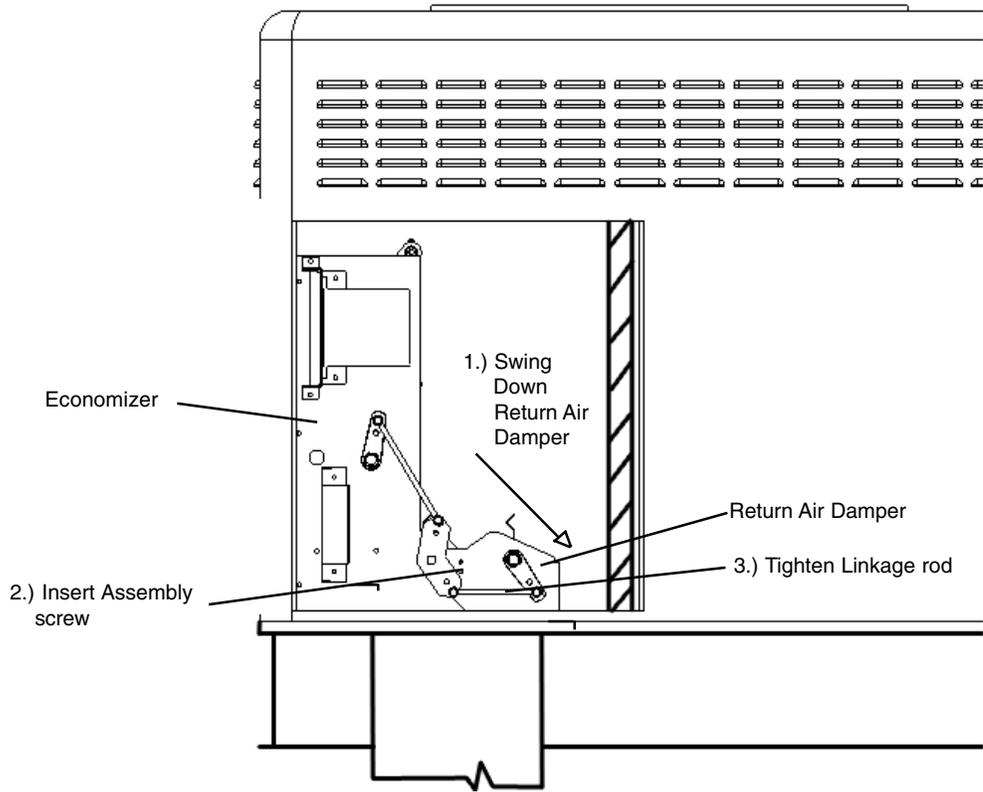

Figure 5. Swing Down and Set Economizer Return Air Damper
2. Swing the return air damper section down so that it rests on the bottom of the unit. The economizer will sit completely over the return air opening in the bottom of the unit. See Figures 5 on page 4. Screw the economizer assembly together with one assembly screw in the side of the economizer. Tighten the linkage rod between the return air dampers.
4. Insert a screw through the pre-punched hole in the side flange of the return air damper and into the mating hole in the economizer assembly and tighten. See Figure 5 on page 4.